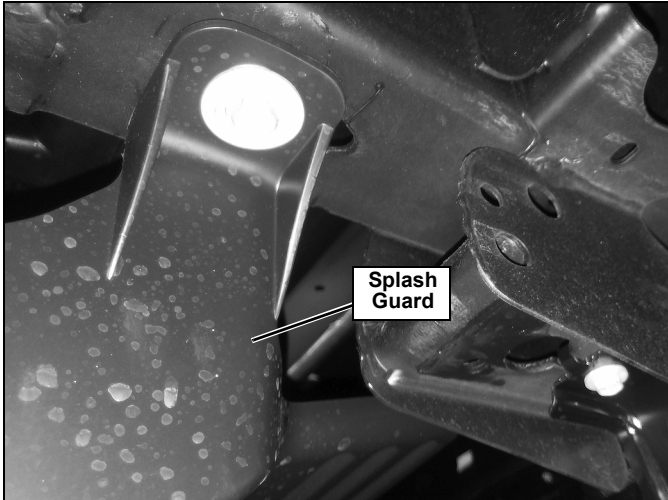

Figure 2
- Remove the splash guard between the frame rails, along with the nut clip held into the frame. (See Figure 2.)